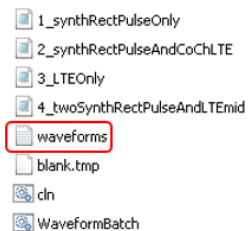

Figure 5: waveform file
- a) Locate the “waveforms.txt” file located in your “Test” folder. See Figure 5.